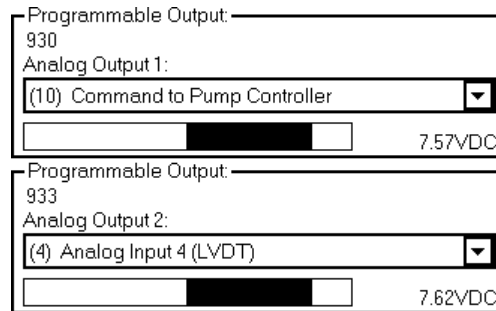

Figure 16: Analog Outputs
There are 2 programmable analog outputs (see Figure 16). Analog Output 1 (program item 930) is located on the front of the EPC typically used as a test point for debugging. Analog Output 2 (program item 933) is located on terminals 7 and 8 typically connected to an analog input of a PLC.